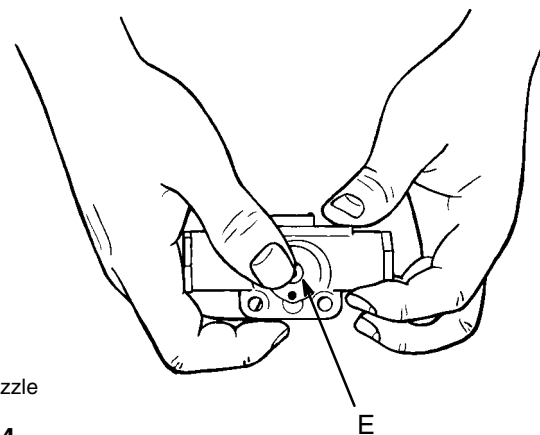

Fig. 14
7. Use your fingers or a soft tool such as pencil eraser to push on the front of the nozzle (E) and pop it out the rear of the housing. Place the nozzle in solvent, being careful to keep it separated from the other parts to avoid damage. See Fig. 14.